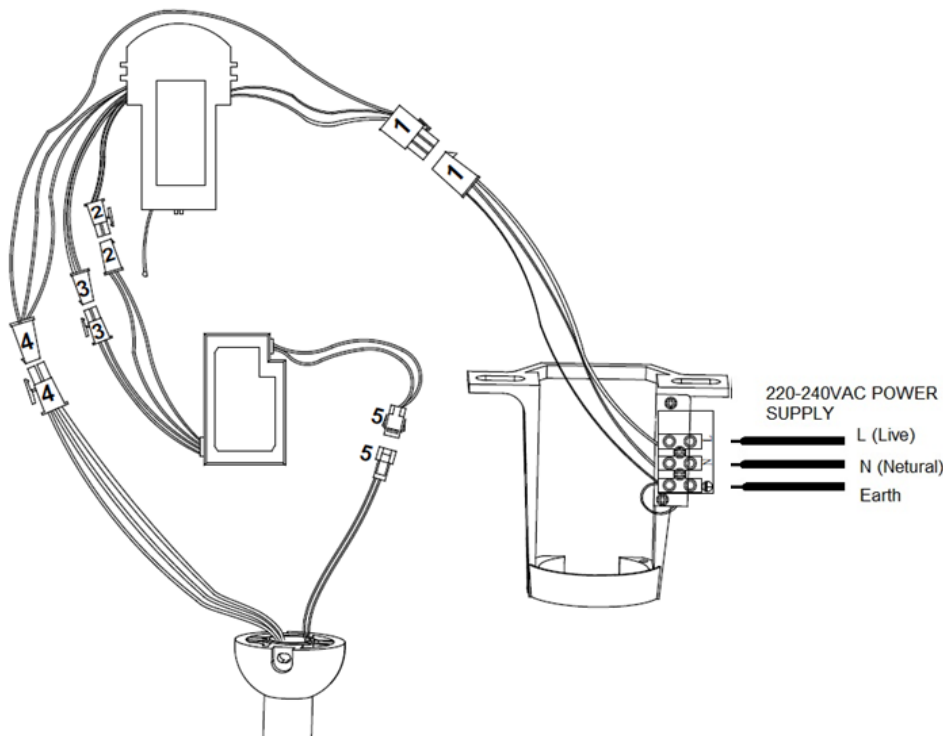

Fig. 5
2. Refer to the wiring diagram provided for Electrical Connection/installation. Fig. 5
3. After completing the electrical wiring at the mounting bracket terminal and connecting the remote receiver power input wires and fixed wiring via the 4-ports quick connectors (1); connect the LED driver power input wires and remote receiver power output wires via the 2-ports quick connectors (2); connect the LED driver PWM signal input wires and remote receiver PWM signal output wires via the 2-ports quick connectors (3); connect the remote receiver fan output and motor input wires via the 4-ports quick connectors (4); also connect the LED driver output wires and LED light wires via the 2-ports quick connectors (5). **Fig. 5**